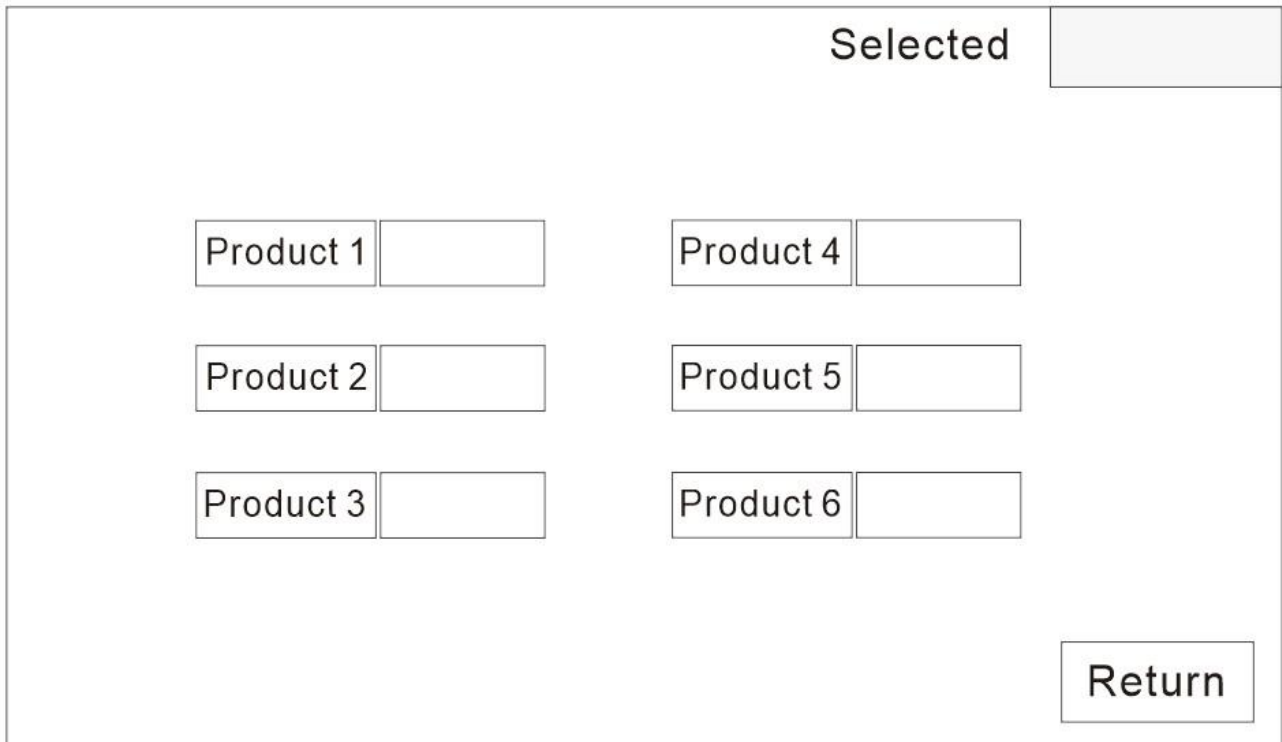

Figure 8-11 Product Interface
4. In the upper right corner, the current product button enters the product selection interface, as shown in Figure 8-11, you can save 6 kinds of product parameters, and when using, select the corresponding product;